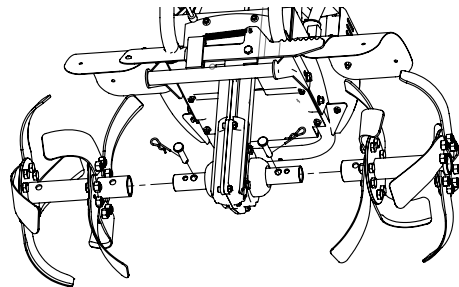

Figure 3
- c. Assemble tines to unit. Sharp edges of tines will be away from the operator at top or face down at front of machine. Use (2) 10 x 50 shaft pins plus (2) 2 x 46 B pins. **SEE FIGURE 3.**